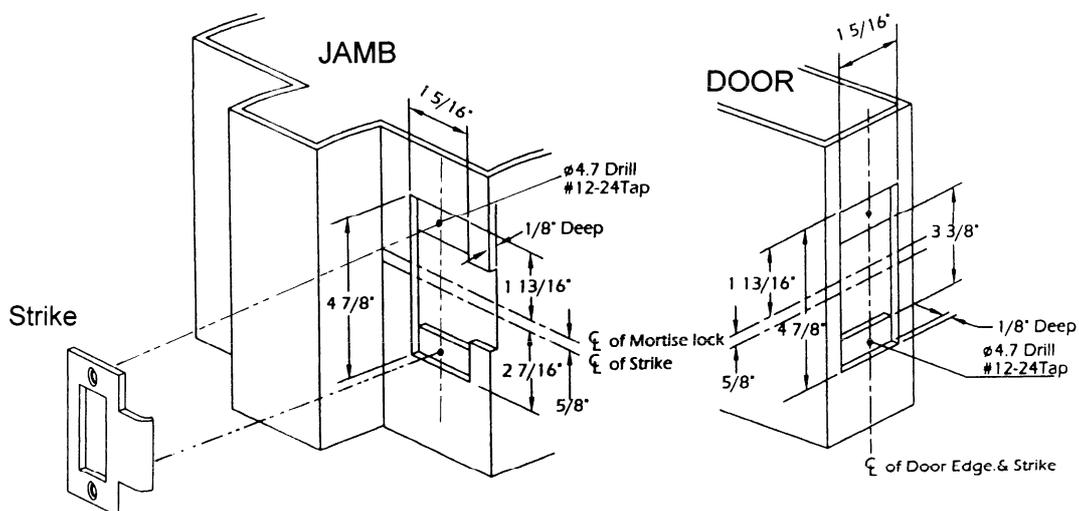
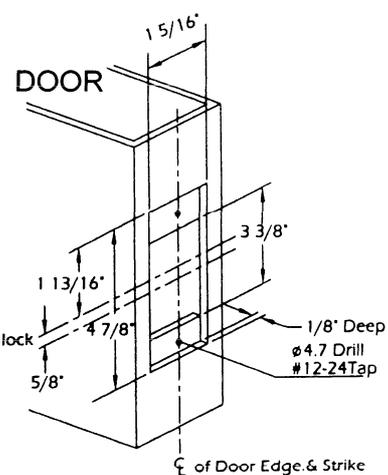

Figure 2-1
Figure 2-2
2. Align the strike template on the jamb or the inactive door edge. Be sure to keep 5/8" (16 mm) distance between the lock center line and the strike center line. Mortise latch bolt hole on the jamb or the inactive door edge according to measurement of the strike template, & 1-1/8" (28 mm) deep. Recess 1/8" (3 mm) for flush fit of the strike. (See Figure 2-1 and Figure 2-2).